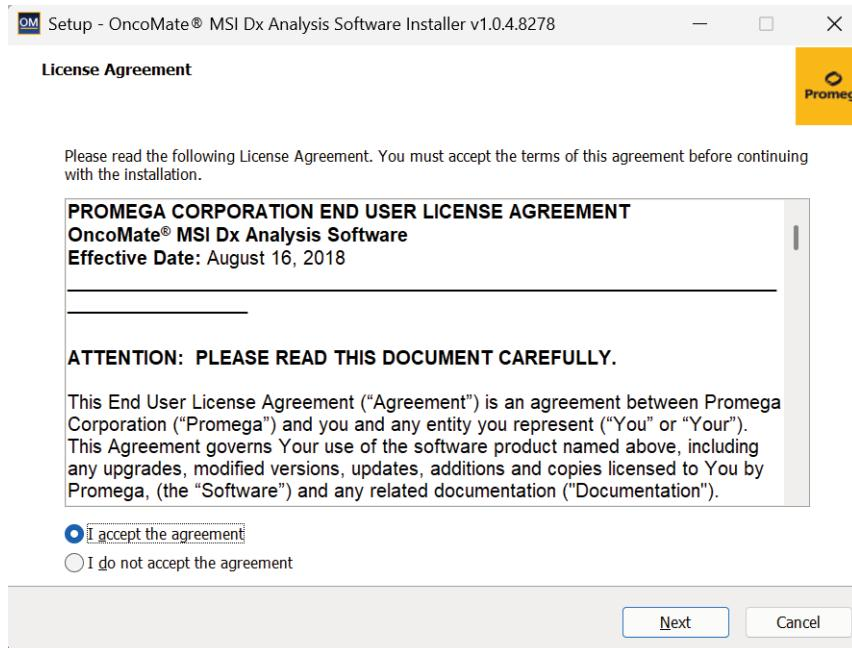

Figure 3. Reading the end-user license agreement.
3. Read the end user license agreement (See Figure 3). Select “I accept the agreement” and **Next** to continue with software installation or **Cancel** to cancel the software installation. If you chose “I do not accept the agreement”, select **Cancel** to exit the installer.